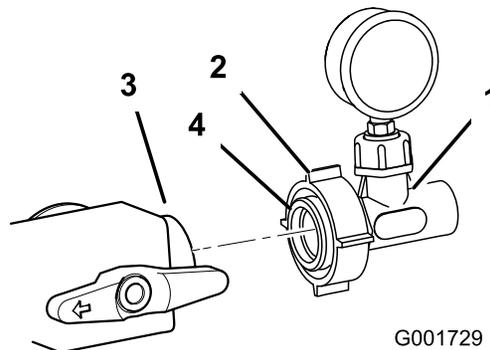

Figure 15
15. Lubricate the O-ring in the adapter with a non-petroleum based lubricant, such as vegetable oil (Figure 15).
previously (Figure 15). Tight the plastic nut to secure the assembly to the valve.